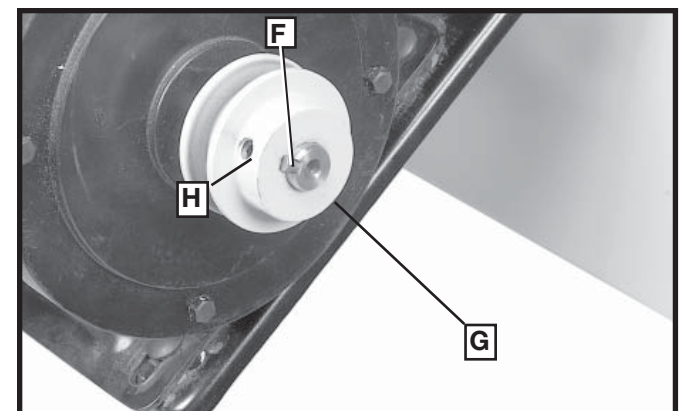

Fig. 35
2. Insert key (F) Fig. 35, in the keyway on the motor shaft. Assemble motor pulley (G) on motor shaft as shown, with the hub of the pulley out. Tighten set screw (H) against key (F) in motor shaft.